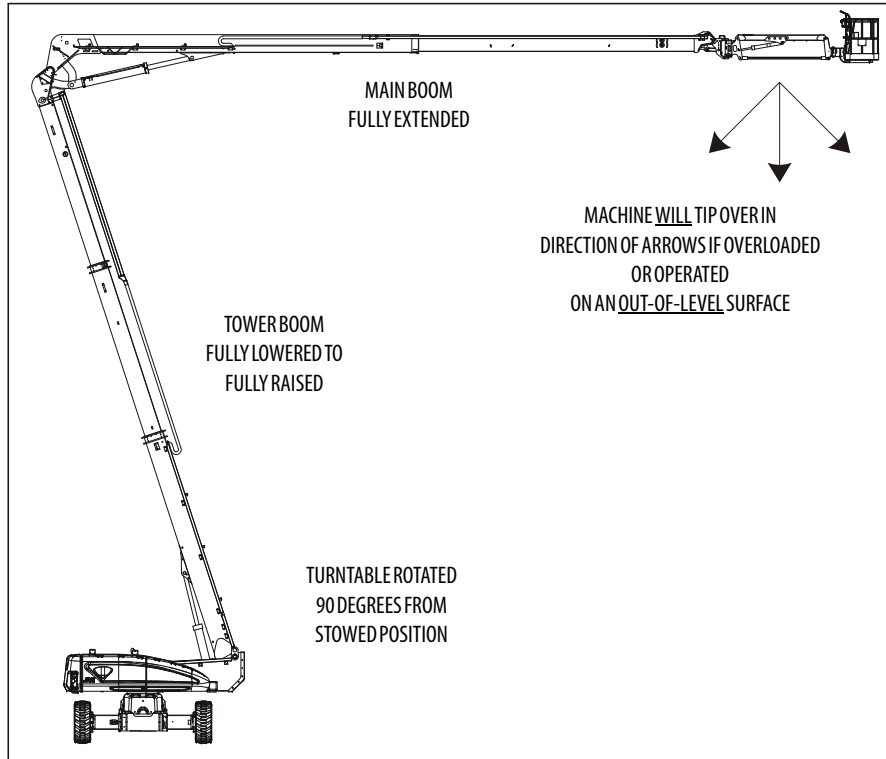
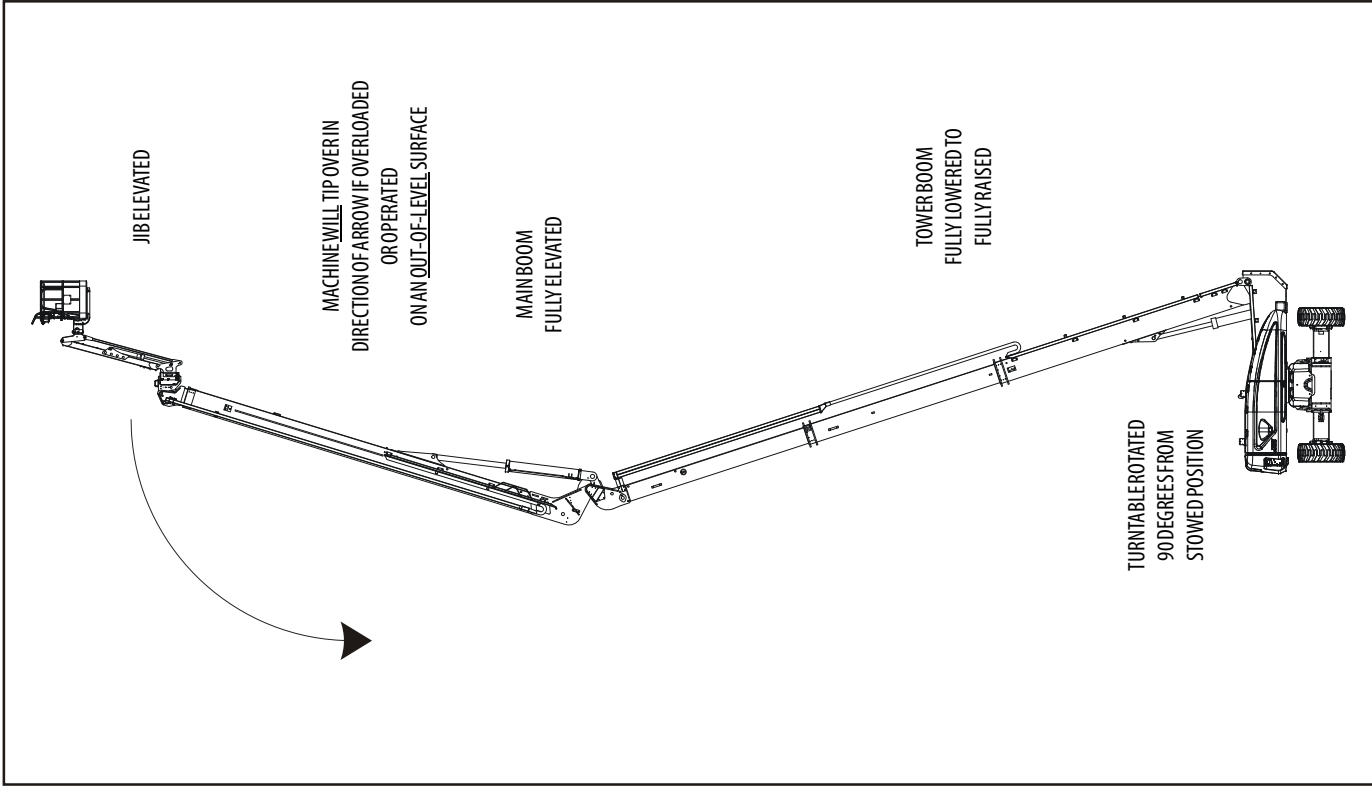

Figure 4-2. Position of Least Forward Stability
Figure 4-4. Position of Least Backward Stability - Sheet 2 of 2
Machine stability is based on two (2) conditions which are called FORWARD and BACKWARD stability. The machine's position of least FORWARD stability is shown in (See Figure 4-2.), and its position of least BACKWARD stability is shown in (See Figure 4-4.)